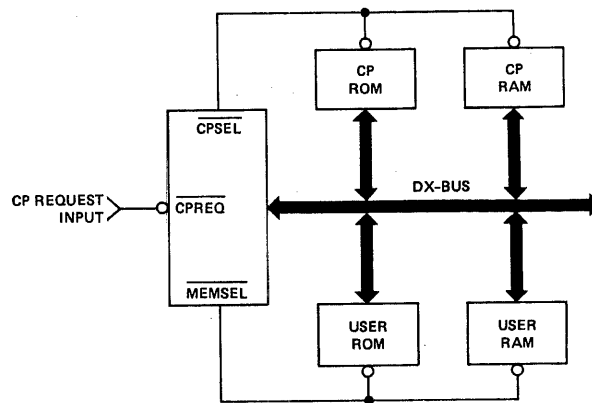

FIGURE 11 – Control Panel Block Diagram
The HM-6100 CPU provides a unique Control Panel (CP) feature through its  $\overline{\text{CPREQ}}$  input and  $\overline{\text{CPSEL}}$  output lines. After acknowledging the control panel request, the CPU generates the necessary timing to execute program code in CP memory while also providing the capability to transfer data between CP memory and the user memory using the AC as a buffer. This allows the user memory to be examined and/or modified by the CP software. The CPU will output the  $\overline{\text{MEMSEL}}$  signal for all user memory references while the  $\overline{\text{CPSEL}}$  signal is generated for CP memory references as shown in Figure 11.